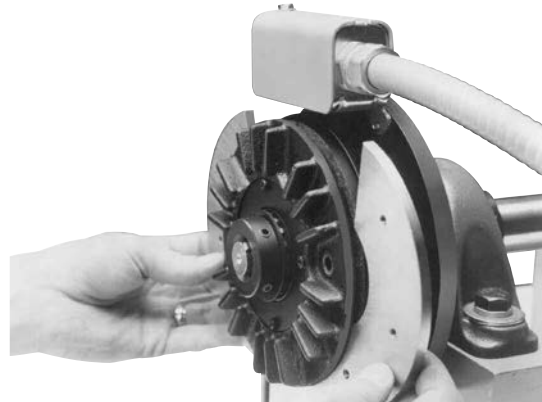

Figure 3
3. Lift out the two worn armature segments. (See Figure 3)